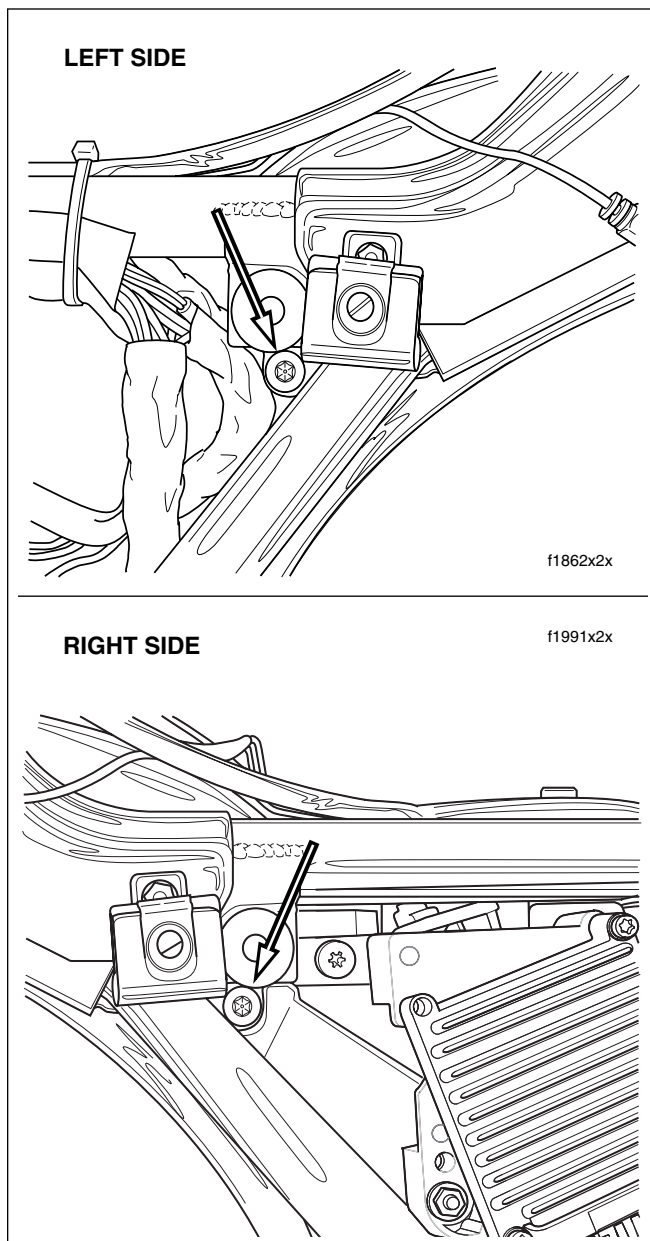

Figure 2-193. Fender Side Mounting Screws (T40 TORX)
11. Remove fender side mounting screw located just below side cover grommet. Repeat step on opposite side of motorcycle. See Figure 2-193.
5. Engaging hole in frame and fender front spacer nut, start fender side mounting screw located just below side cover grommet. Repeat step on opposite side of motorcycle. See Figure 2-193.